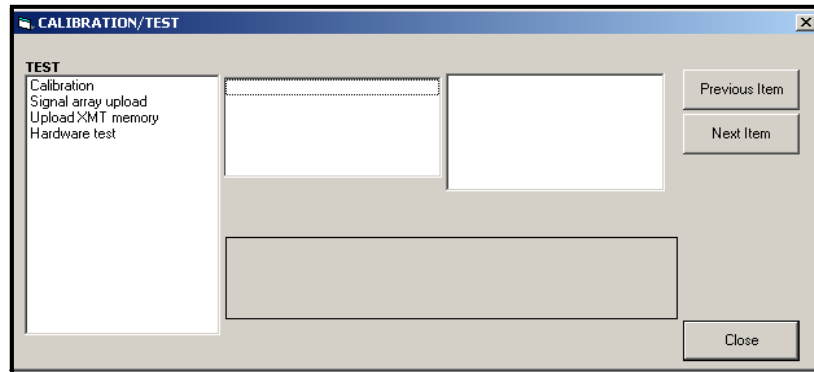

Figure 11: The Calibration/Test Menu
5. To enter data into the user program, double-click on the *Calibration/Test* menu. The window appears similar to Figure 11.
1. From the *Calibration/Test* menu (see *Figure 11* on page 38), double-click on the *Calibration* entry to open the option.
To calibrate any option card installed in Slot 1 of the XMT868i, enter the *Calibration/Test* menu as shown in *Figure 11* on page 38.